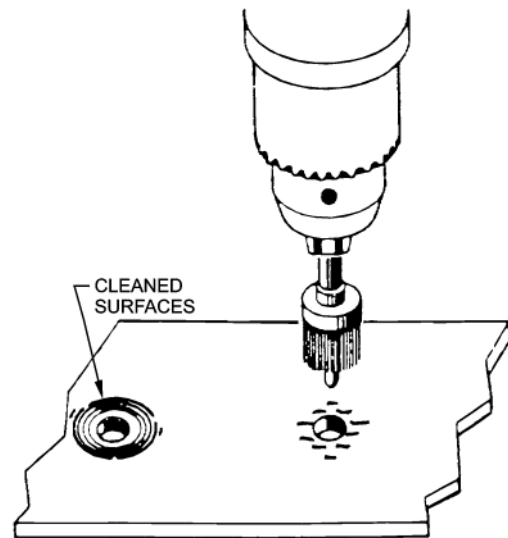

Figure 13-4 Stainless Steel Wire Brush With Pilot for Cleaning Aluminium Surfaces
15. Apply a coating of petrolatum compound to bonding or grounding surface of aluminium structure and clean surface thoroughly, using stainless steel wire brush with pilot as shown in Figure 13-4. Wipe off the petrolatum compound with a clean dry cloth.